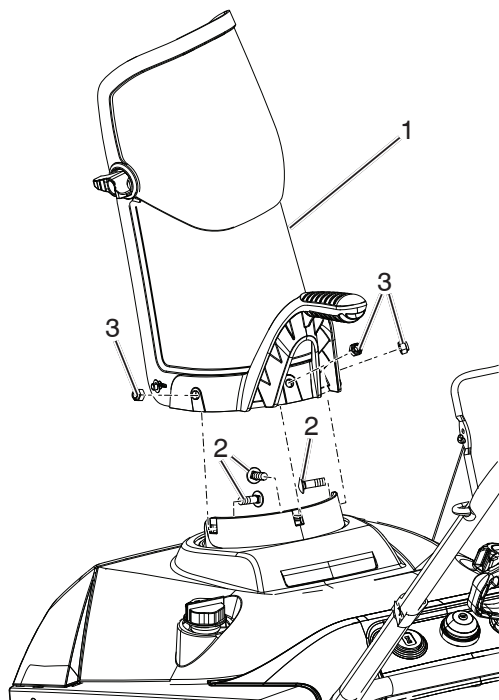

Figure 26
3. Remove the discharge chute and the discharge chute handle by removing the three carriage bolts and three flange nuts (Figure 26).
17. Install the discharge chute, and the discharge chute handle onto the snowthrower using the hardware removed in step 3 (Figure 26).